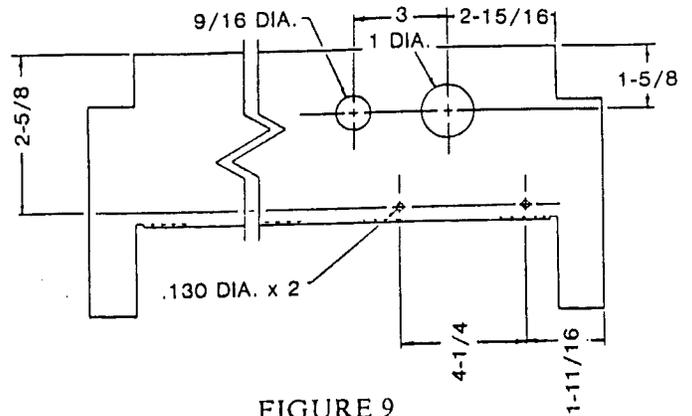

FIGURE 9
- f. Mark center locations of 1/2 inch flexible conduit and wiring passage holes in the filter stop. See figure 9 for hole locations and sizes. The 9/16 hole will be used if and when the A/C or heat pump damper control accessory is installed. And, it is easier to cut this hole now, than later trying to do it with various parts in the way at the top, back of the furnace.